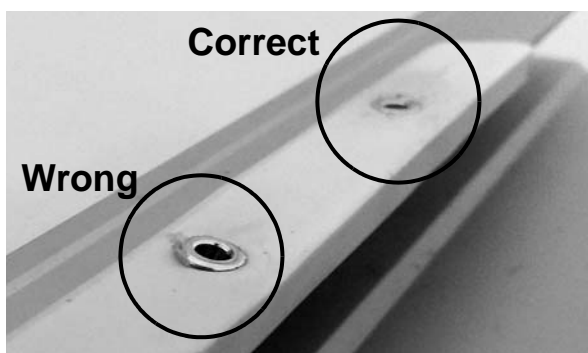

Figure 48
2. Check that the rivets do not protrude over the surface of the slide rail. Check both top and underneath surface of slide rail for protruding metal. (See **Figure 48**.)